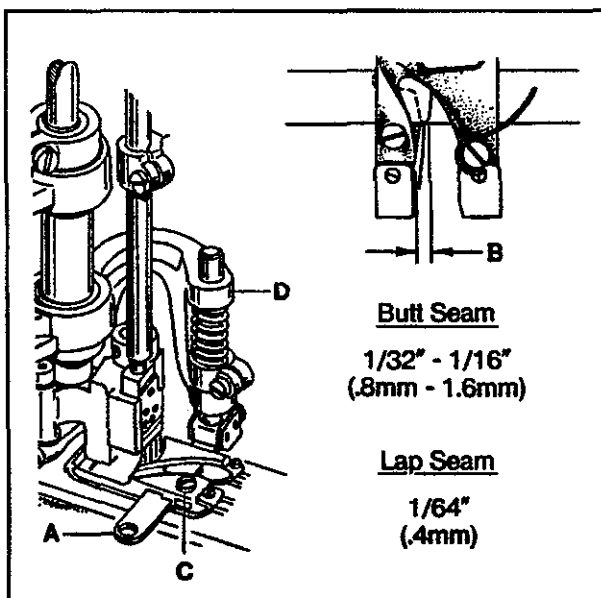

FIG. 28
To make the adjustments for a flat, butt seam, position lower knife (A, Fig. 28) in the foot so it extends $1/32$ " to $1/16$ " (0.8mm to 1.6mm) past the right side of the left toe (B) (approximately between the second and third needles). Loosen screw (C) and move knife in or out as required. Tighten screw (C) securely.
To make the adjustments for a lap seam, position lower knife (A, Fig. 28) in the foot so it extends $1/64$ " (0.4mm) past the right side of the left toe (B) (approximately even with the first needle). Loosen screw (C) and move knife in or out as required. Tighten screw (C) securely.